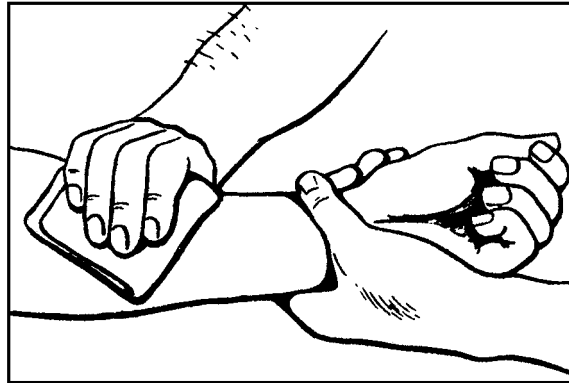

Figure 1-5.—Direct pressure.
**Direct Pressure.**—In almost every case, bleeding can be stopped by the application of pressure directly on the wound. Figure 1-5 is an example of direct pressure. Place a dressing (sterile or clean, if